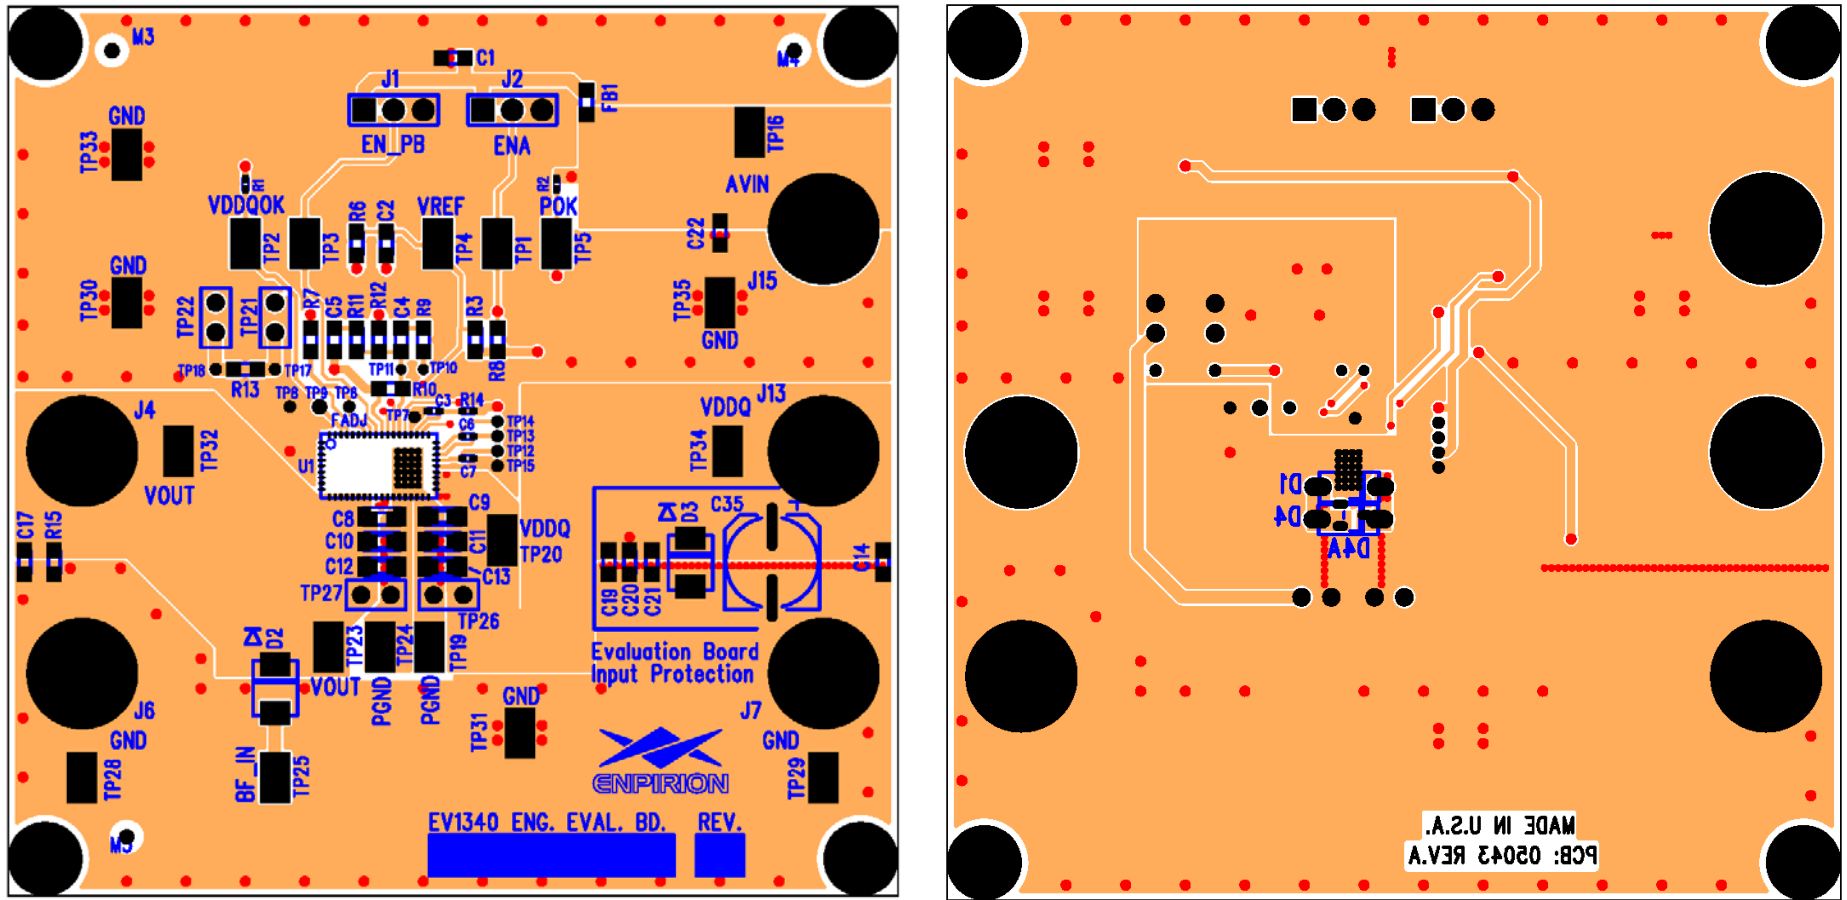

Figure 4: Evaluation Board Top Side and Bottom Side (viewed from the top) Assembly Layers.
STEP 4: Connect the VDDQ Power Supply to the input power connectors, VDDQ (J7) and GND (J11) as indicated in Figure 4 and set the power supply to the desired voltage ($\leq 1.8V$). For VDDQ more than 1.5V, the loop compensation values will have to be adjusted according to the datasheet.
STEP 5: Connect AVIN power supply to the input connectors AVIN (J12) and GND (J11) as indicated in Figure 4 and set the power supply to the desired voltage ($\leq 3.6V$).
STEP 6: Connect the load to the output connectors VOUT (J6) and GND (J10), as indicated in Figure 4.